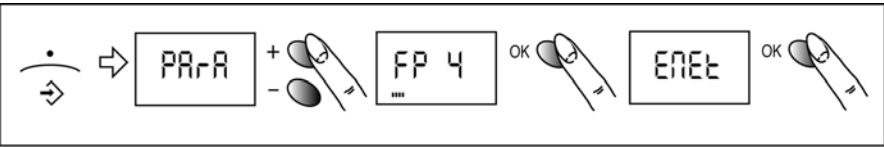

Fig.8
- Turn the mode selector switch to the position (see Fig.8)